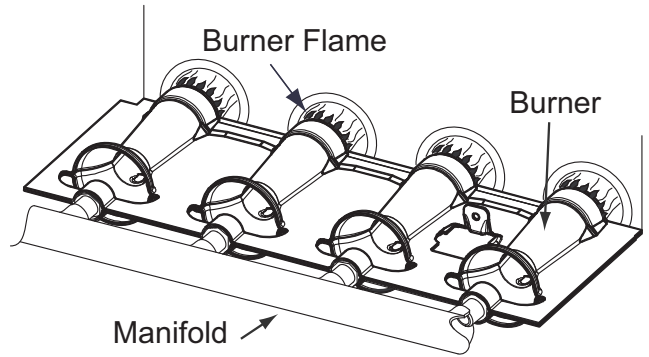

Fig. 71 – Burner Flame
8. Reverse items 6 through 1 for reassembly.
11. Check furnace operation through 2 complete heat operating cycles. Look at burners. Burner flames should be clear blue, almost transparent. See Fig. 71.